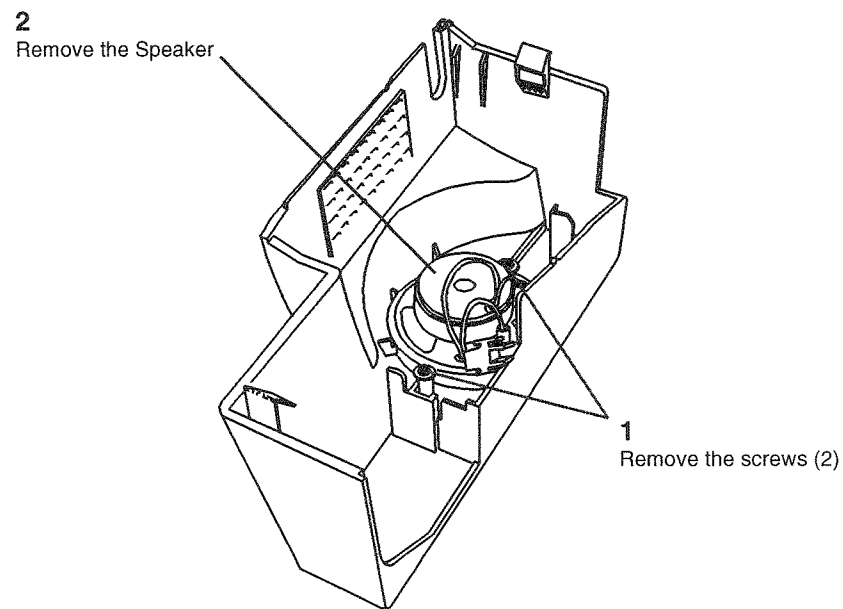

Figure 2 Removing the Speaker
2. (Figure 2 ) Remove the Speaker.